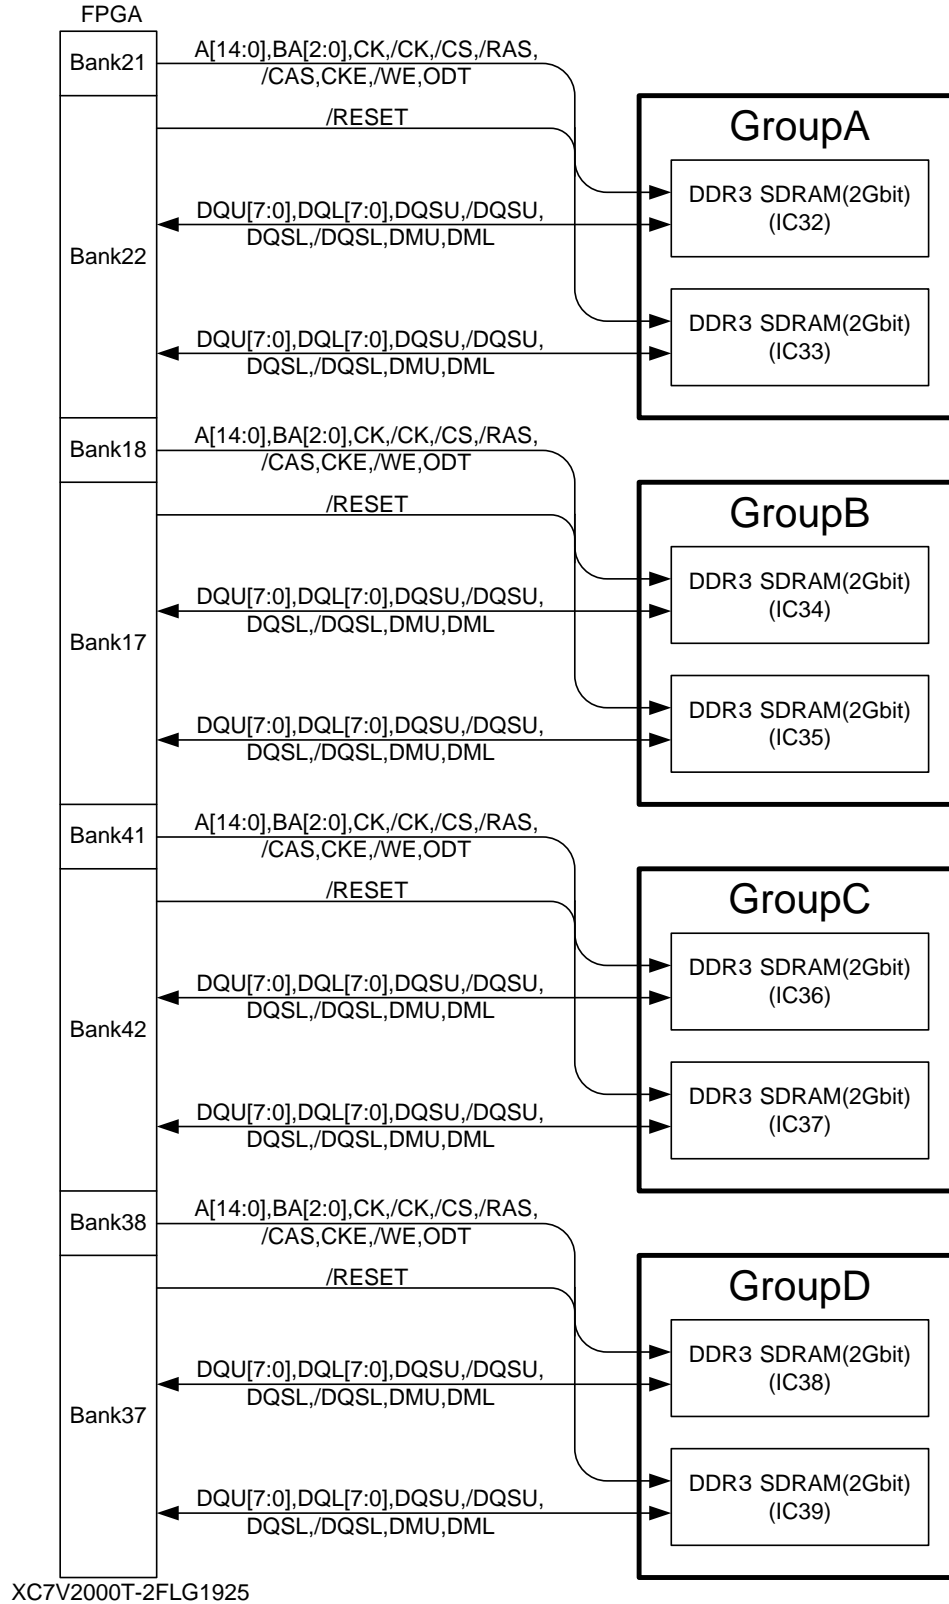

Figure 8-2 DDR3 SDRAM Connections
The DDR3 Memory is segmented into four (4) groups as shown in Figure 8-2.